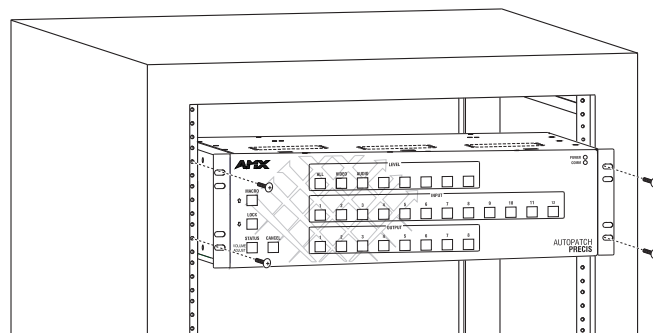

FIG. 7 Place in rack and fasten with mounting screws
2. Place the enclosure in the rack and attach front-mounting screws to hold it firmly in place (FIG. 7).